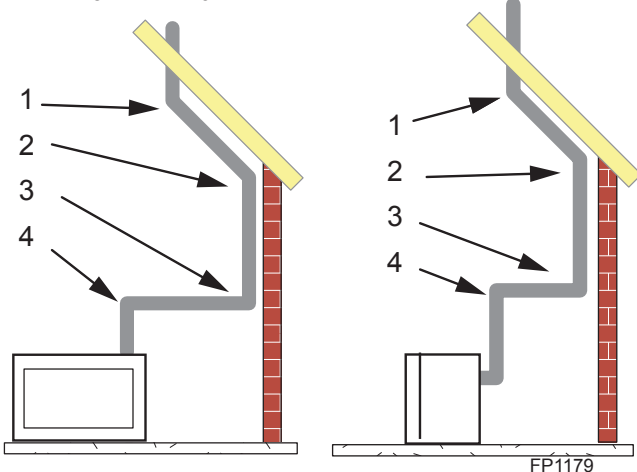

**Figure 36 -
- The maximum angular variation allowed in the system is 270° . *Figure 36*